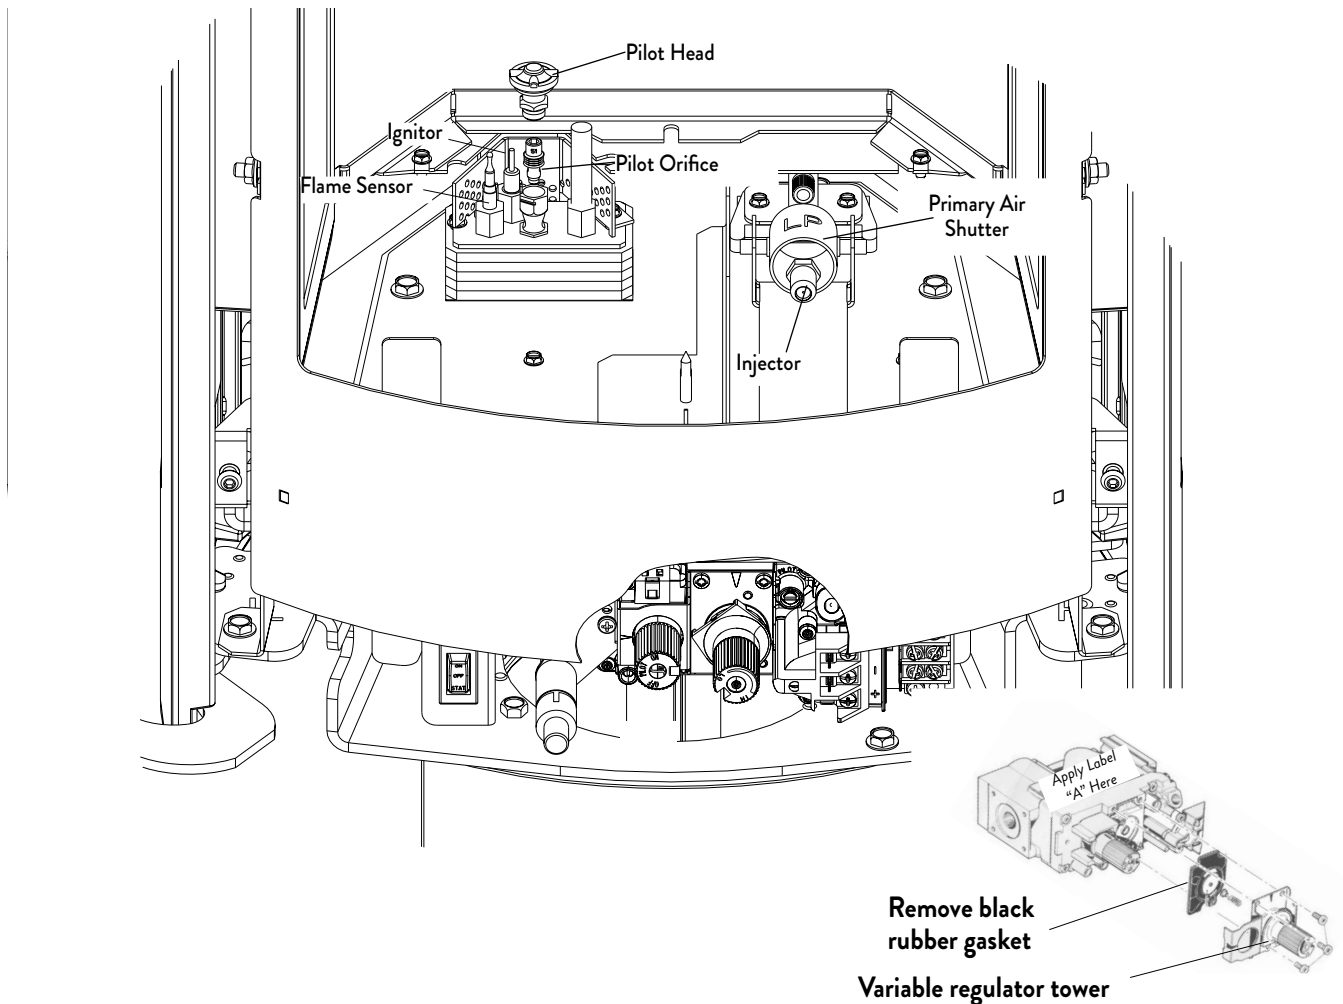

Figure 7.7.
9. Replace the variable regulator. Using a Torx T-20 screwdriver, remove the two specialty screws from the regulator tower on the front of the valve. Note: To help identify which screws to remove, refer to the new regulator in the kit. See fig. 7.7.